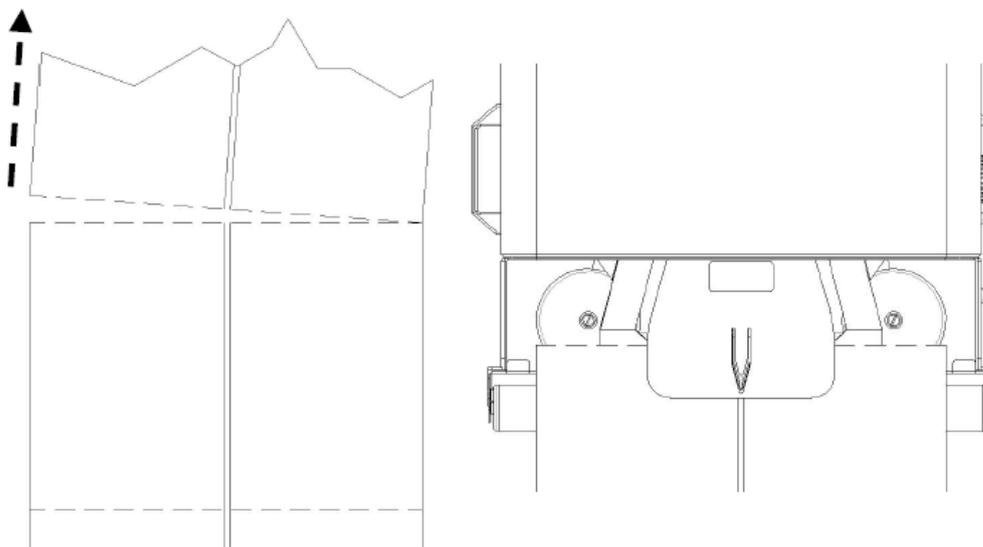

Figure 24 Loading Paper After Soft-Jam - Step 2
- a. **Step 1:** Clear the last paper pad in the exit chute (refer to Figure 24).